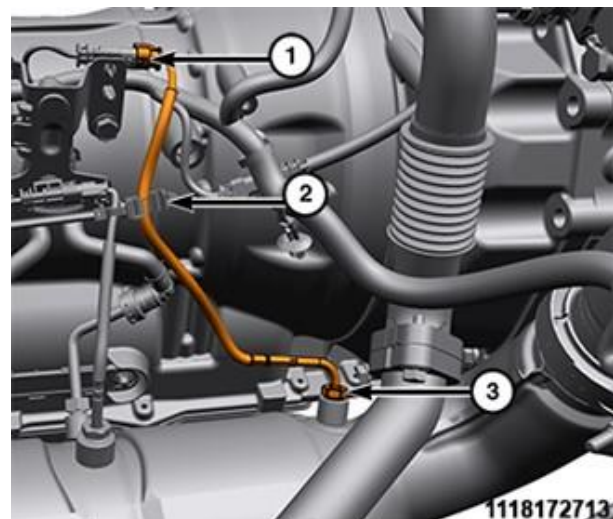

Figure 27 – EGT Sensor 1/2
33. Disconnect the electrical connector (1) and release the wire harness retainer (2) for the Exhaust Gas Temperature (EGT) sensor 1/2 (Figure 27).